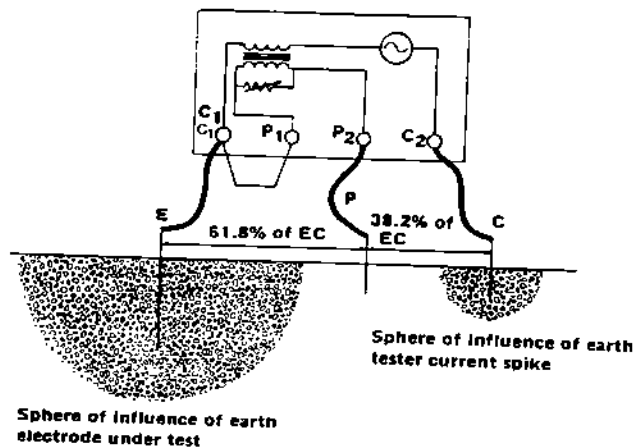
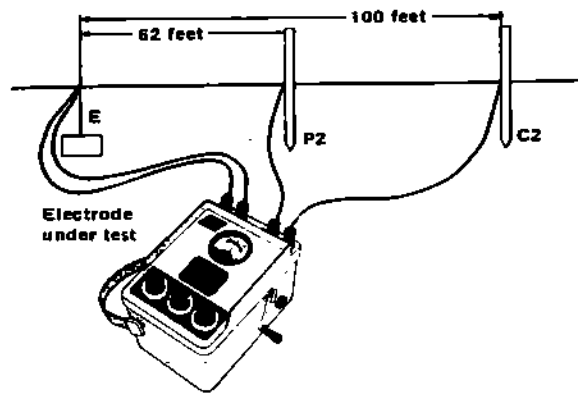

Figure 3-2. Positioning Ground Rods in Relation to the Electrode Under Test.
Figure 3-6. Alternative Connections for Testing Resistance to Earth of an Earth Electrode Compensating for Cable Resistance where Long Leads are Required.
b. TEST ELECTRODE SPACING. Fall-of-potential or 3-point method is commonly used for single rod or small earth grids. This involves positioning current and potential rods C and P as shown in Figure 3-2 and connecting these by suitable cables to the earth tester to complete the current and voltage circuit. The tester is calibrated to read directly the resistance of the electrode E under test. To obtain a valid reading, the current rod must be properly located. Since both possess spheres of influence, the C2 rod must be sufficiently remote to prevent these areas from overlapping. Furthermore, the potential rod must lie between these two areas, preferably along a straight line between them.
In Figure 3-2, the dimensions of the spheres of influence of E and C are frequently unknown and to allow a safe margin the distance chosen for EC may be quite high. It is also necessary to experiment with the location of P.
1. Jumper terminals C1 and P1 and from them connect a lead to the electrode under test (E, Figure 3-2). Keep this lead short as its resistance will be included in the test. However, separate leads may be used from terminals P1 and C1 to E, as in Figure 3-6, in which case the lead resistance will be excluded.